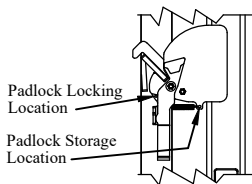

Figure 3: Step 5.
- Step 5. Unlock and remove the latch padlock. Put the padlock in the storage location (Figure 3).